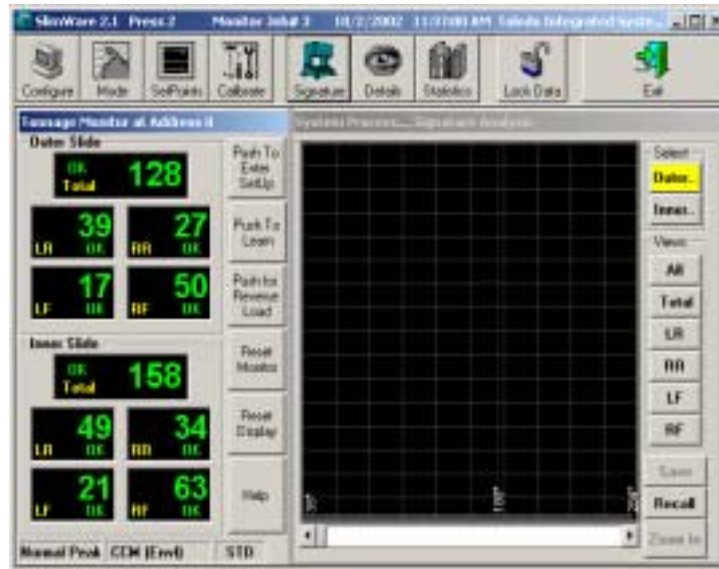

Figure 10.7 - Tonnage Monitor and System Process Window (File Signatures)
- Select the **Process** button from SlimWare's main toolbar. The Tonnage Monitor window and the System Process window will be displayed as shown in Figure 10.7.